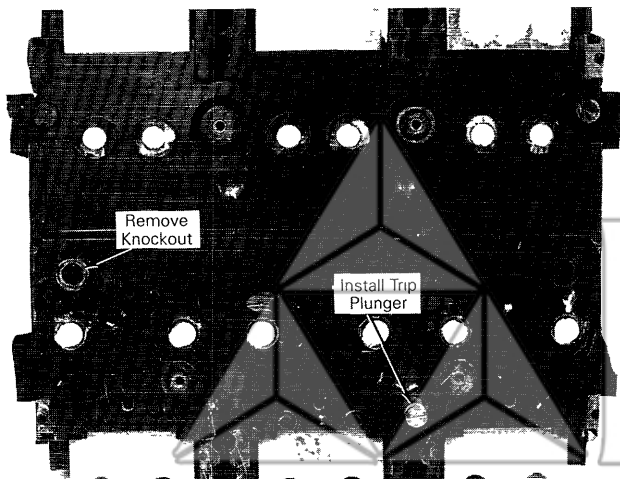

Figure 3. Trip plunger installed in the rear of the breaker.
1. Install the threaded trip plunger into the square hole on the rear of the breaker, as shown in Figure 3. Tighten to 8 in-lb.
2. Remove the knockout on the rear of the breaker, as shown in Figure 3. Be sure to clean the edges of the hole, so that the interlock plunger can move freely in and out.